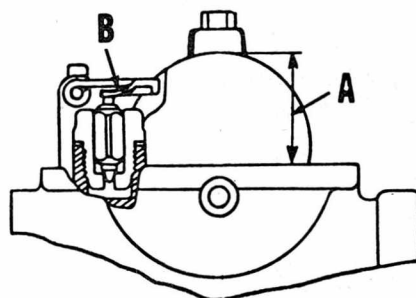

Fig. K5-2—Float level (A) should be 21-24MM and is adjusted by bending tang (B). Float bowl gasket should be removed when checking.
Clip (10) should be in third groove from top of needle (6). Float level (A—Fig. K5-2) should be set at 0.83-0.94 inch (21-24 MM) on all models and is adjusted by bending tang (B).